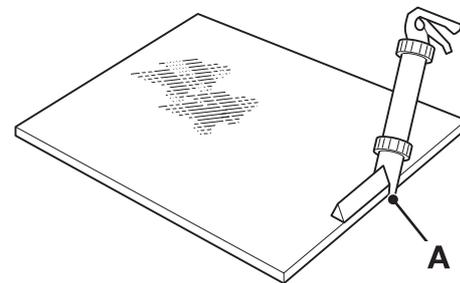

Fig 11.
- 6 Apply the pre-heated adhesive to the glass (do not start in a corner). Keep the nozzle guide 11-A against the edge of the glass and make sure that the adhesive forms a continuous 'pyramid' shape. → Fig 11. (□ B-5)